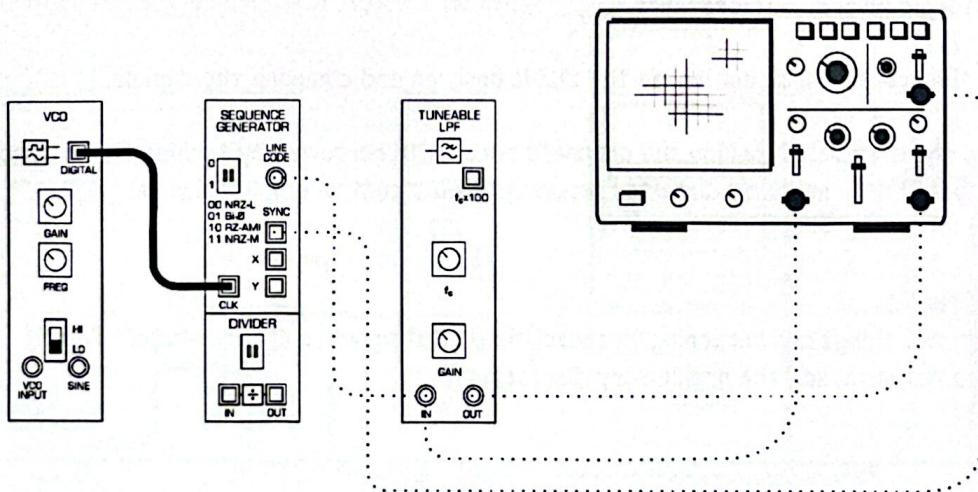
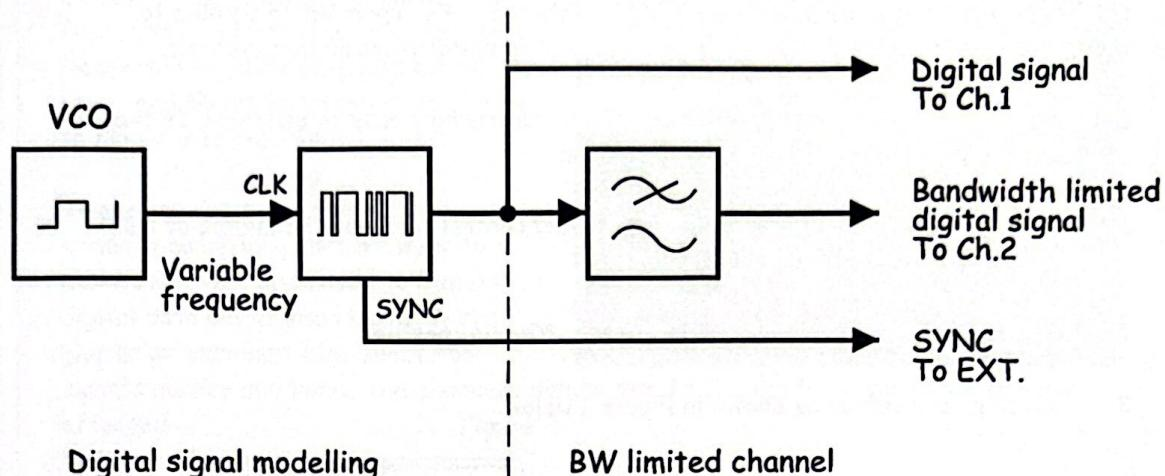

Figure 9
Figure 10
29. Modify the set-up as shown in Figure 9 below.
The set-up in Figure 9 can be represented by the block diagram in Figure 10 below. Notice that the Sequence Generator module's clock is now provided by the VCO module's *DIGITAL* output and so it is variable.